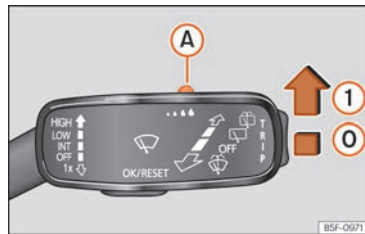

Fig. 108 Windscreen wipers lever: adjust the rain sensor **A**.
>>> Fig. 108.
- ① Rain sensor on; automatic wipe if necessary.
When the ignition is switched off and then back on, the rain sensor stays on and starts operating again when the windscreen wipers are in position >>> Fig. 108 ① and the vehicle is travelling at more than 16 km/h (10 mph).